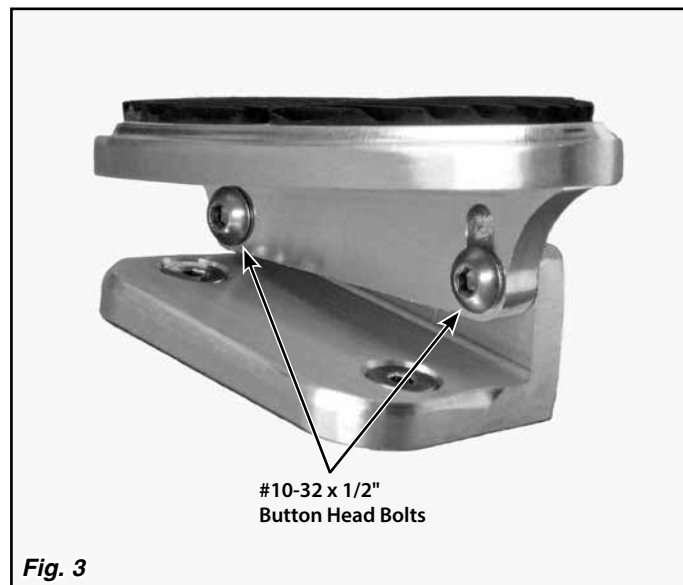

Fig. 3
Step 5: Reinstall the foot rest pad onto the foot rest base using the #10-32 x 1/2" button head bolts. **Fig. 3** Adjust the foot rest pad to the most comfortable angle before tightening the button head bolts with a 1/8" Allen wrench.